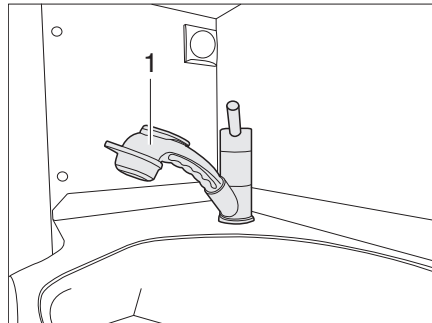

Fig. 97 Shower handset
- ▷ Use the shower handset (Fig. 97,1) to shower. To do this pull out the shower handset.